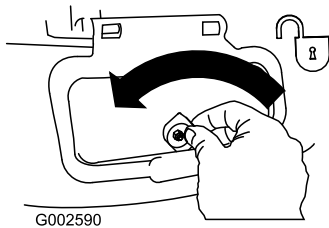

Figure 21
1. Unlock the side discharge door (Figure 21).